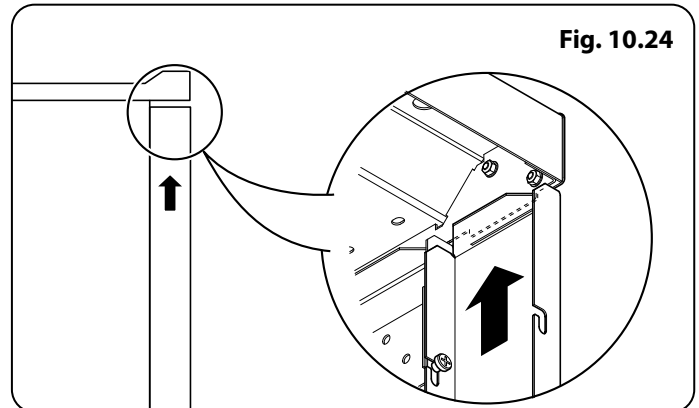

Fig. 10.24
3. Push the side extension up so that the tab in the bottom of the flue extension fits into the slot at the top (Fig. 10.24).